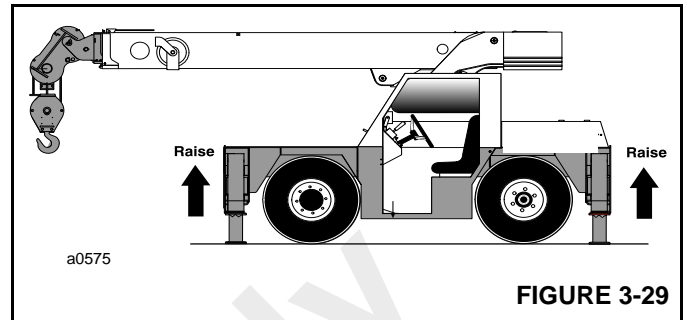

FIGURE 3-29
3. Push the bottom of the Extend/Retract Switch (2).
4. Press the accelerator pedal to increase the engine speed, which will accelerate the upward movement of the stabilizers (Figure 3-29). Release the accelerator